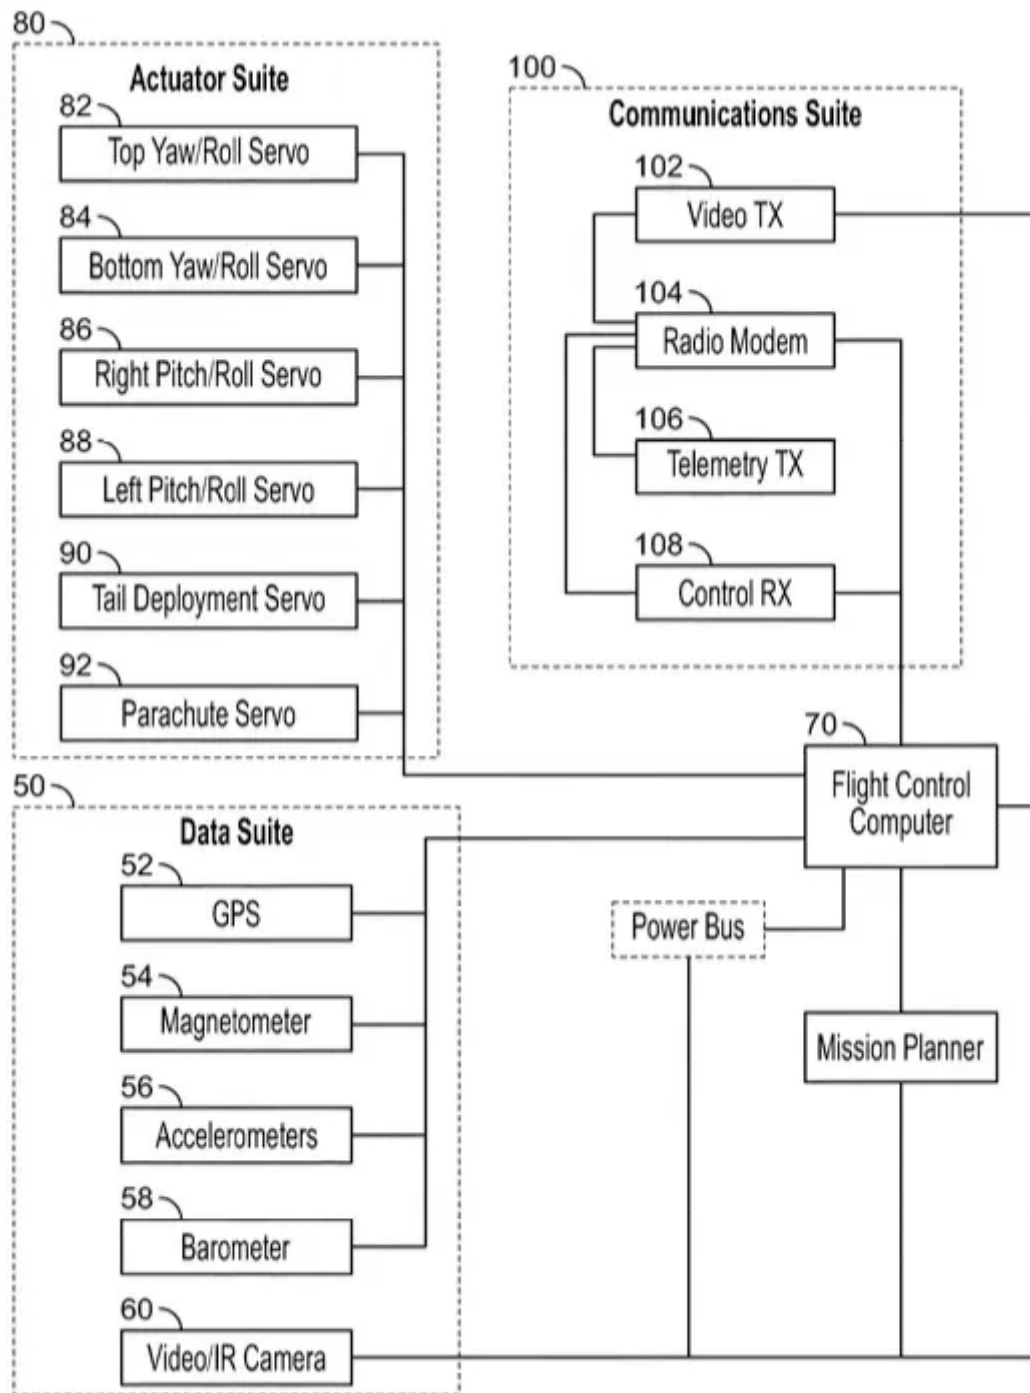

FIG. 3
[0024] FIG. 3 is a block diagram depicting flight controller functions.
[0031] Sensor pod (6) may preferably contain a plurality of sensors such as GPS, infrared and/or visual cameras, altimeters, air speed sensors, and laser range finders. Other sensors and aids known in the art may alternatively be used. The devices in sensor pod (6) aid the flight controller in determining location, velocity and atmospheric conditions in relation to the desired ground location. In an alternate embodiment, a base station at the landing site may provide additional telemetry by means of a two-way radio modem or similar communication standard. The sensors are discussed further in connection with FIG. 3.
[0041] Reference is now made to FIG. 3, which depicts the flight controller functions. As shown in FIG. 3, the DASH vehicle flight control and telemetry system may preferably be a flight control computer (FCC) consisting of components necessary to provide location, guidance and control of surfaces. That computer allows for an accurate determination of the current location of the mother ship relative to the designated landing location. It further deflects control surfaces to maintain precision on a flight path towards the designated landing location.